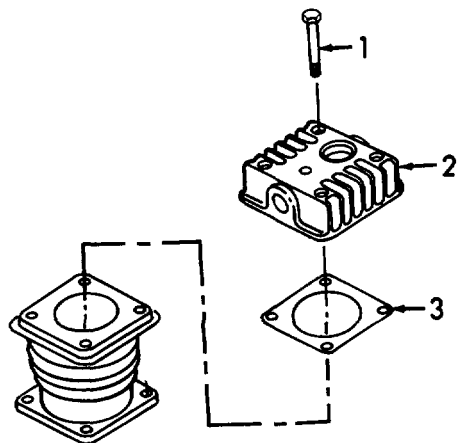

Figure 3-27. Head and Valve Assembly, Removal.
a. *Removal.* (Refer to Figure 3-27).